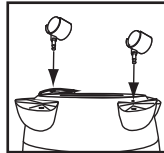

FIGURE 9
7. Insert casters into feet by placing stem of caster into holes provided. Apply pressure and twisting motion until casters snap into place **FIGURE 9**. Return tank to upright position.